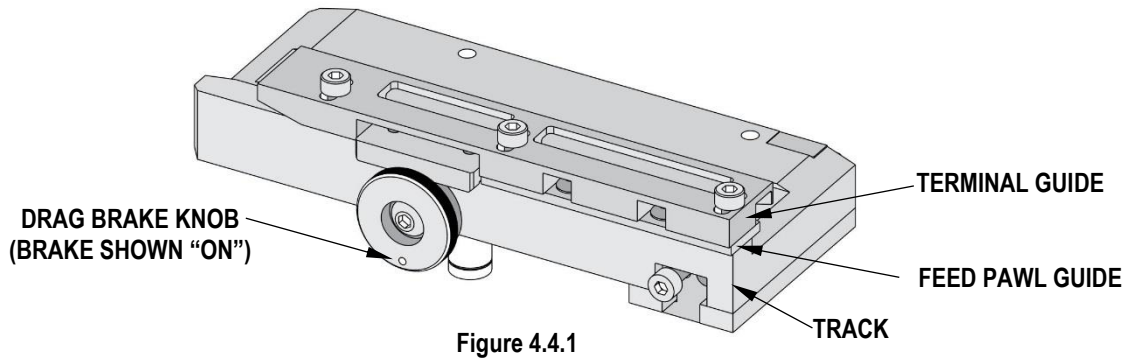

Figure 4.4.1
The applicator's terminal track uses two adjustable guides. See Figure 4.4.1:
- **Terminal Guide:** The terminal guide steers the terminal strip through the track to maintain consistent crimp bellmouth and cut-off tab. See Figure 4.4.1.